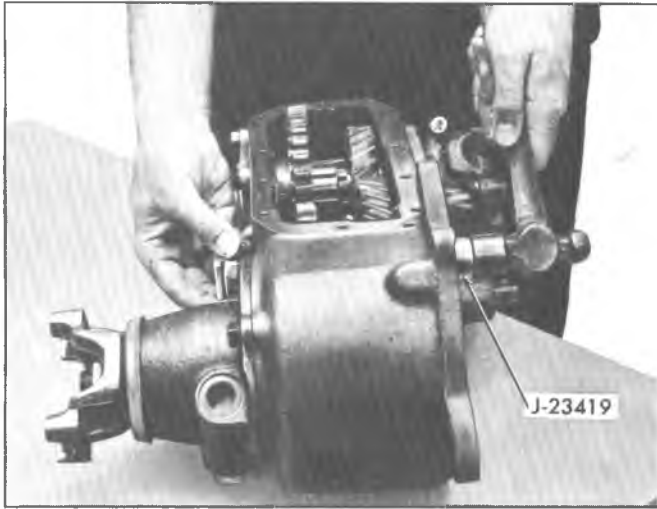

Fig. 2D--Removing Intermediate Gear Shaft
4. Using dummy shaft J-23419, drive intermediate shaft out of rear of case as shown in Figure 2D.